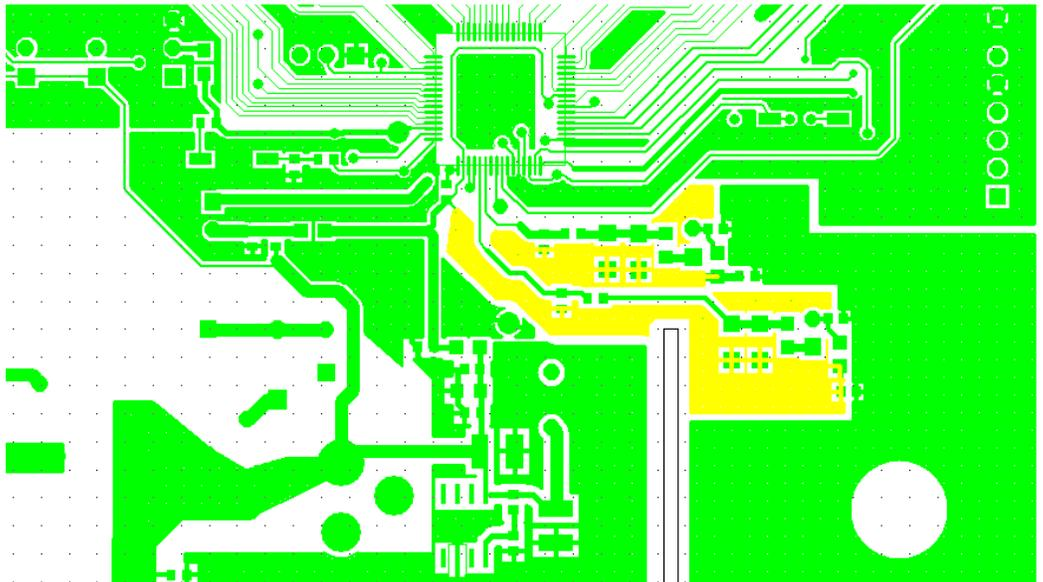

Figure 21: V3P3A Structures for IA and IB
2. Create a wide V3P3A plane structure to provide a stable reference for the measurement signals. Meter measurement performance is improved with wider V3P3A copper structures (see Figure 21).